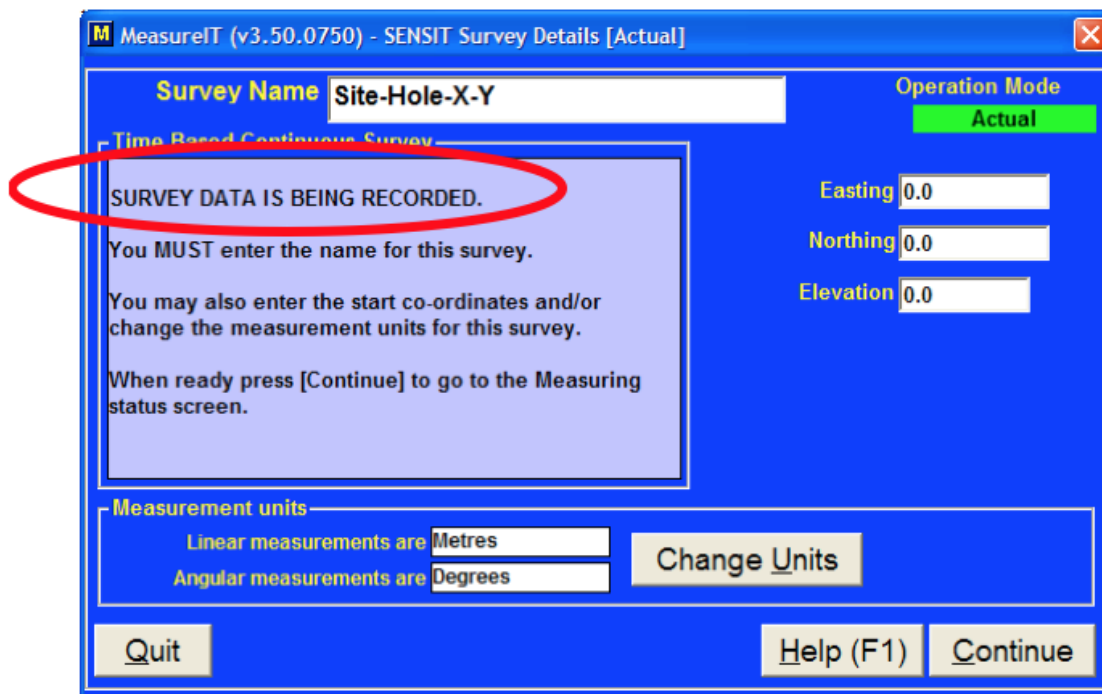

Figure 7 Survey naming and unit selection screen
7. Give the survey a name, such as "{Site}-{Hole}-{start core}-{end core}" or similar (**Figure 7**). Verify that the measurement units are correct. The other fields should be ignored. Hit **Continue** when finished.